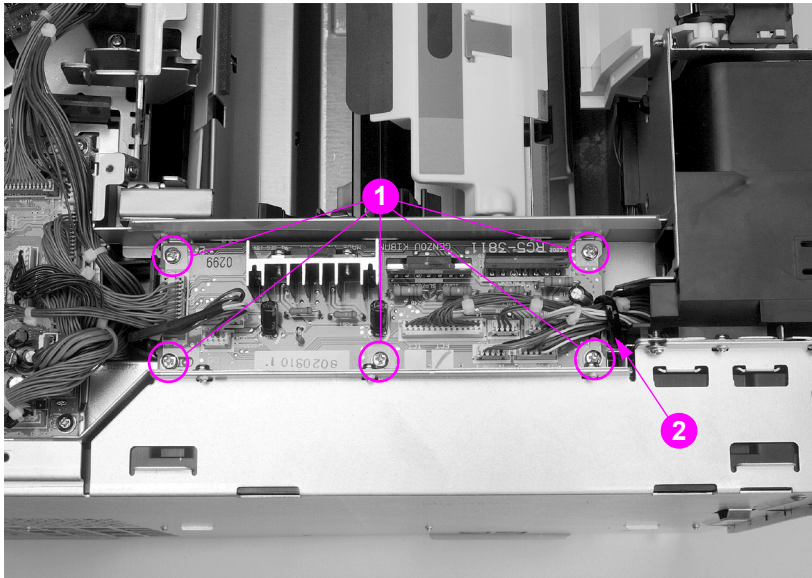

Figure 6-17 Developing PCB removal and replacement (2 of 2)
- 6 Disconnect the connectors from the developing PCB and release the cables from the metal cable stay (callout 2, Figure 6-17 on page 160).
- 7 Remove the five or four screws (depending on the version of printer that is being serviced) from the developing PCB (callout 1, Figure 6-17 on page 160).
When securing the developing PCB with the five or four screws, secure the metal cable stay (callout 2, Figure 6-17) at the location shown.